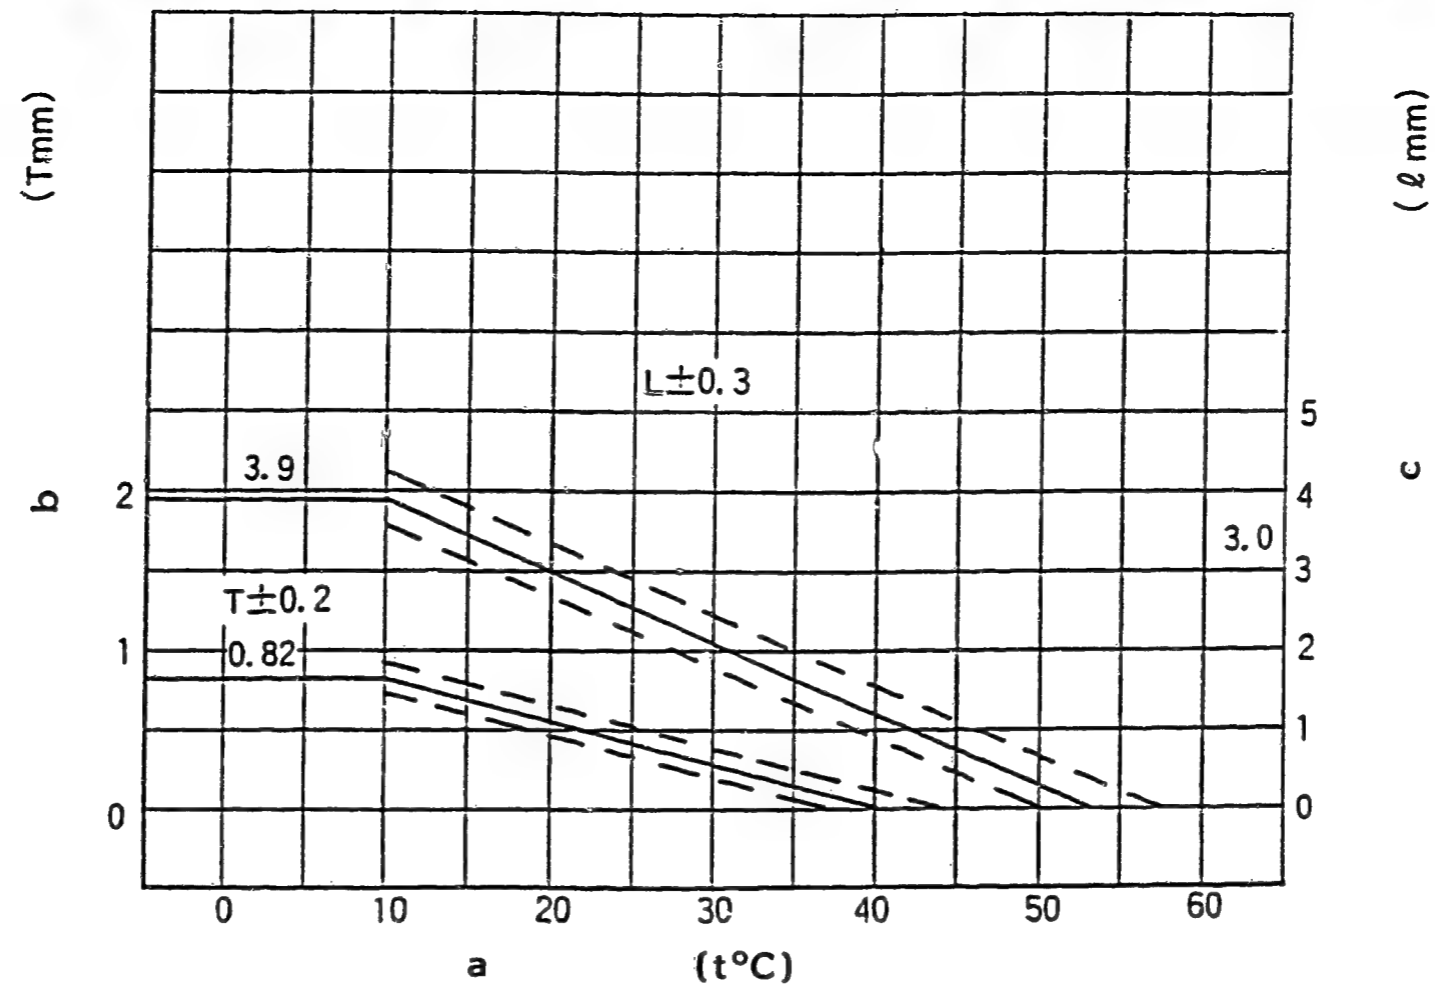

Figure 13
- 1) Calculate the block gauge dimension $l \pm 0.05$ mm from (Fig. 13) according to the atmospheric temperature at the time of adjustment.
- 3) In the above condition, adjust screw (2) so that the intermediate lever setting screw contacts the control lever. Then, tighten nut (1) to fix the screw.